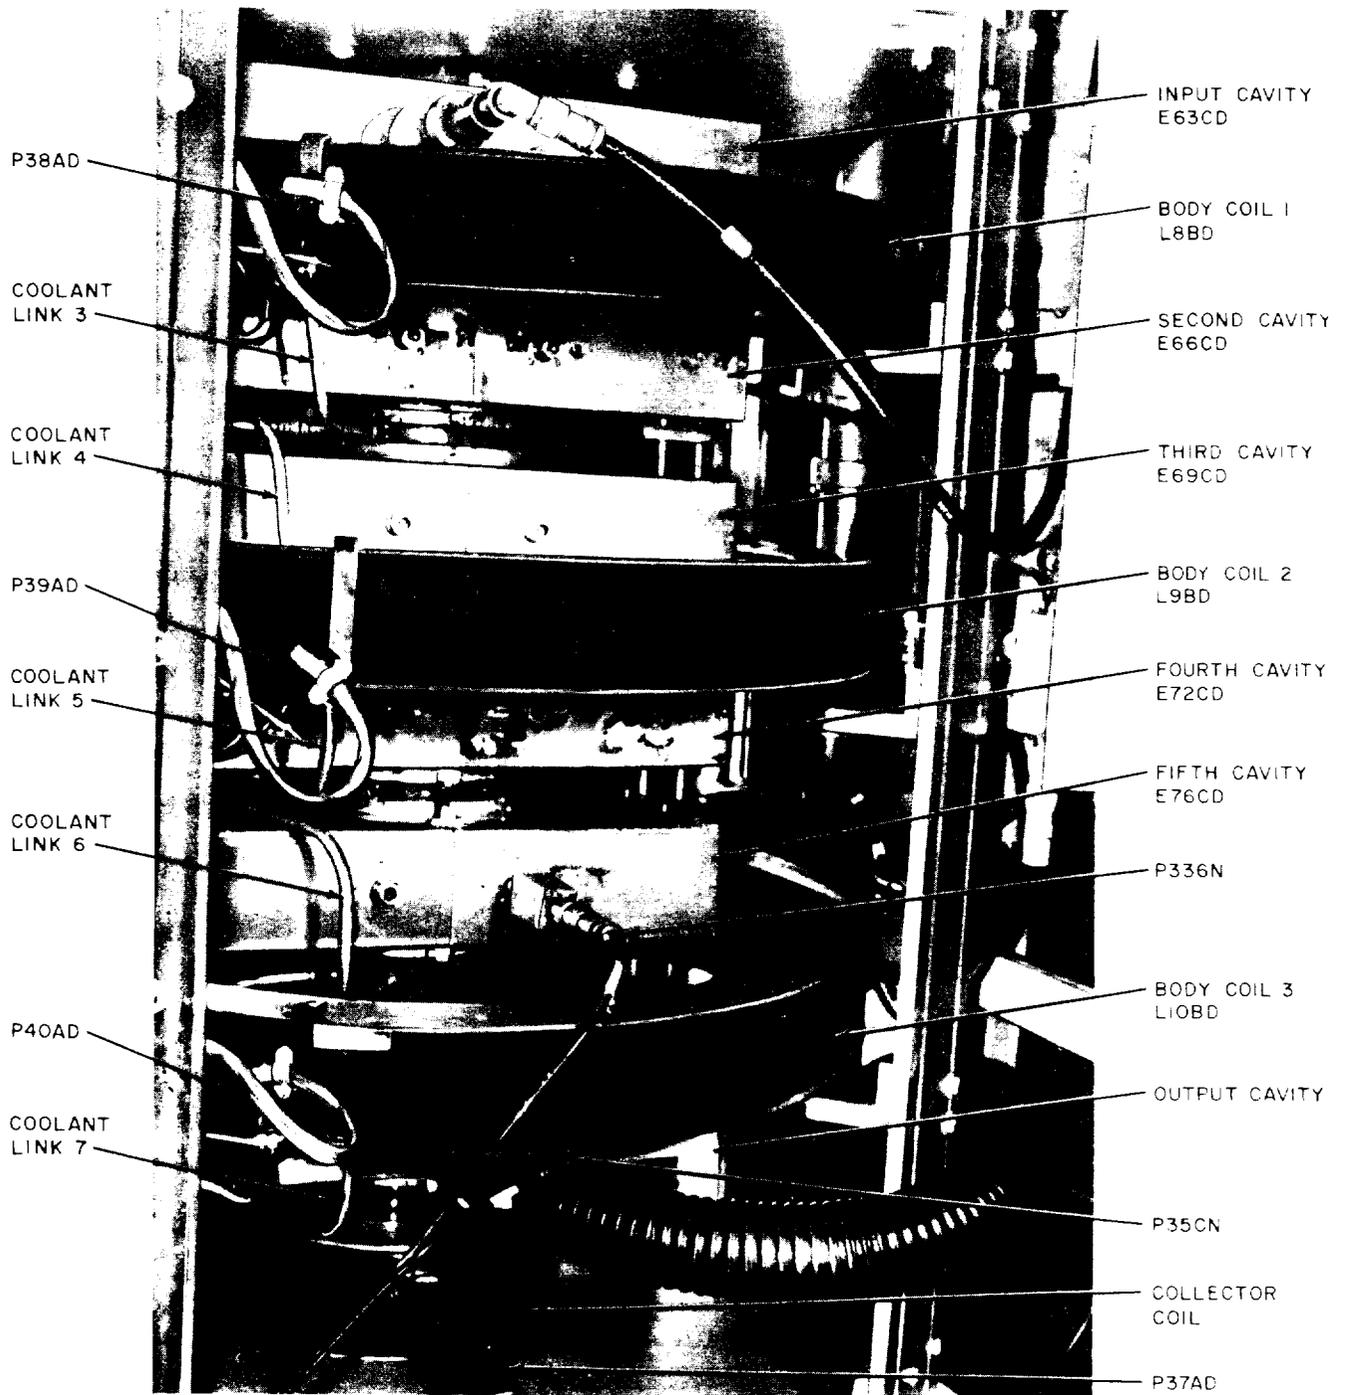

Fig. 1—Magnetic Structure in Cabinet—Rear View
| 1    | Starting at the output cavity, remove the primary-secondary coupler assembly by removing the two nuts on the top of the assembly. Remove the two screws on the right side that hold the internal fixed capacitor to the output box. See Fig. 1.  |
**INSTALLATION OF KLYSTRON TUBE IN MAGNETIC STRUCTURE (FIG. 1, 2, 3, AND 4)**